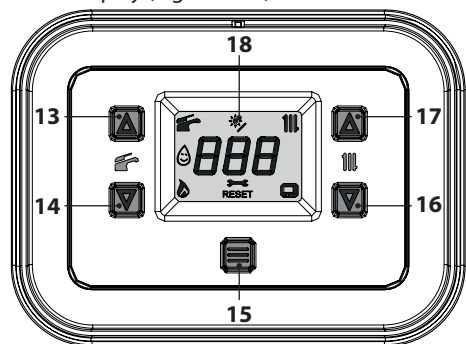
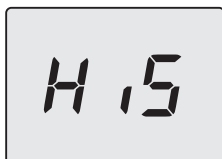
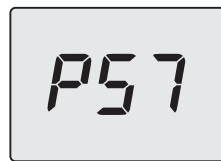

Figure 5.25
Figure 5.26
Figure 5.29
- Enter “programming mode” by pressing the 14 and 16 buttons simultaneously for 5 seconds (Figure 5.25) until **HiS** (in reference to the “Boiler History” menu) appears on the LCD display (Figure 5.26).
- Press the 15 button for 1 second (Figure 5.25) to open the selected parameter. The display will show the following (Figure 5.29).
- Press button 15 (Figure 5.25) to confirm the value entered. The display will show the following (Figure 5.31) for 5 seconds, then move up to the next level.
- Press the keys 14 and 16 simultaneously (Figure 5.25) to exit the level without changing the value (return to the previous level).
- press the 14 and 16 keys simultaneously for 5 seconds (Figure 5.25) (return to previous level).